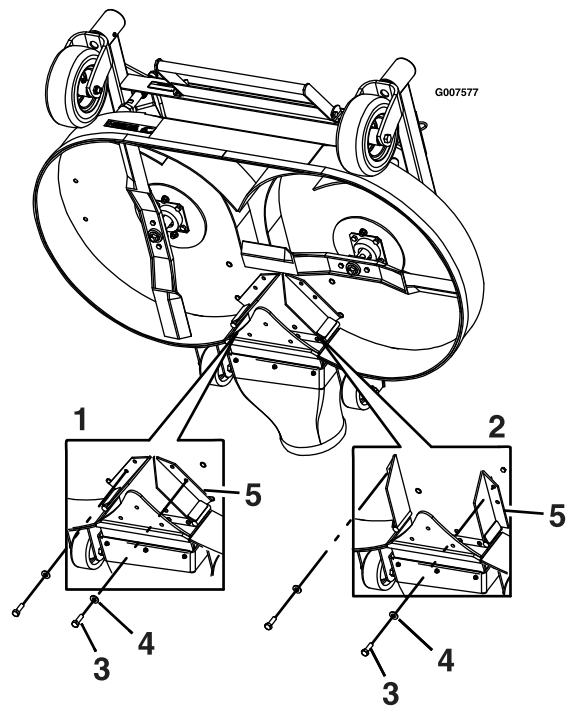

Figure 13
7. Remove the bolt and washer at the front of each FRS baffle (Figure 13).